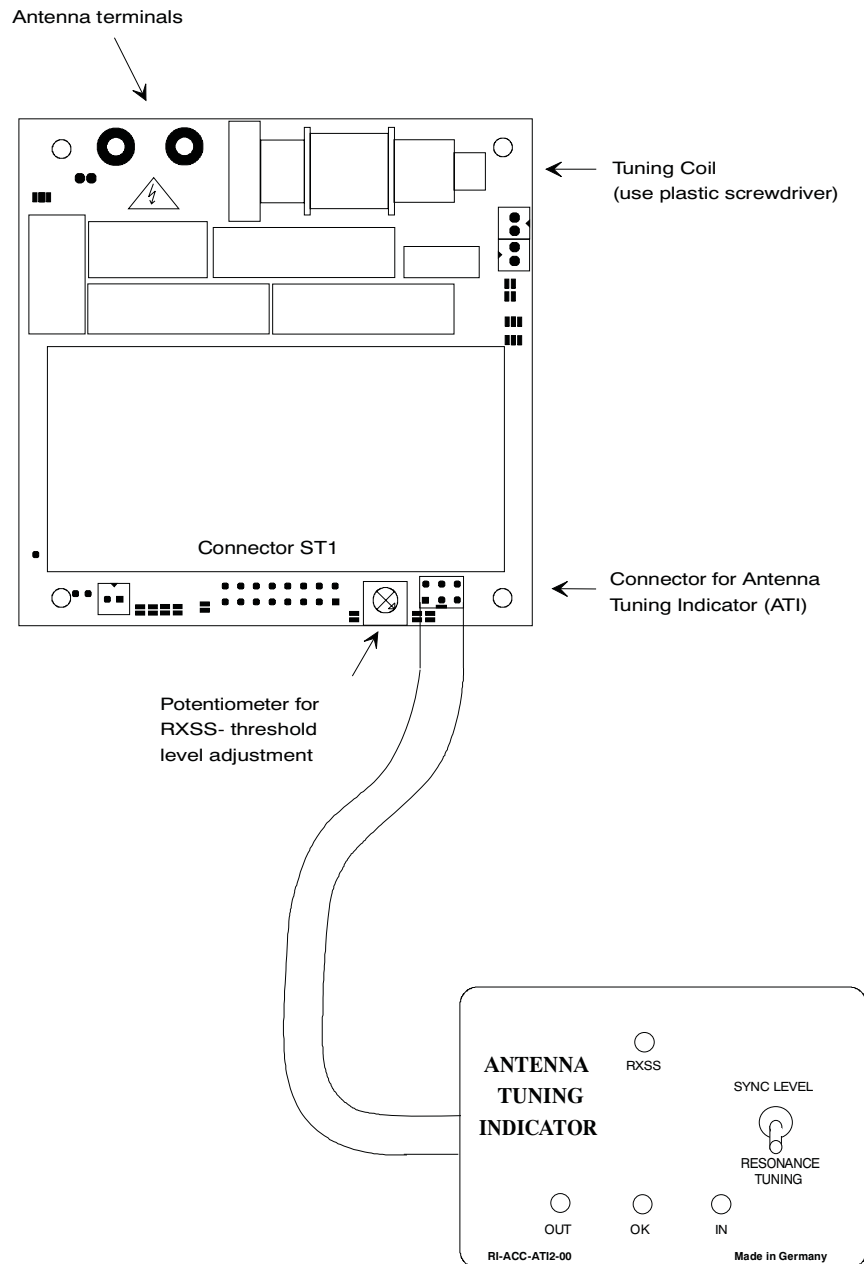

Figure 2-1. Top View of the ATI Connected to the RFM
The ATI is connected directly to the RF Module via the ATI connector on the RF Module (see Figure 2-1). It does not need a separate power supply. It can be connected to the RF Module even if the module is already connected to the Control board.
- Connect the ATI to the RF Module as indicated in Figure 2-1.
In order for wireless read cycle synchronization to work correctly the RXSS- threshold level must be adjusted by means of the potentiometer built into the RFM. This potentiometer is located on the upper side of the RFM, next to connector ST-1 on the S2000 RFM (see Figure 2-1), or next to J1 on the Power RFM.